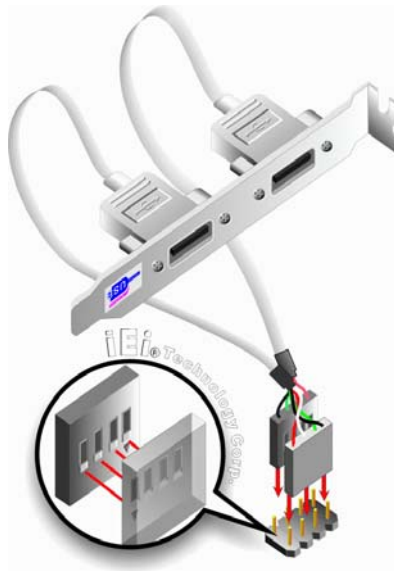

Figure 5-13: Dual USB Cable Connection
Step 3: Insert the cable connectors. Once the cable connectors are properly aligned with the USB connectors on the SPCIE-3600AM2, connect the cable connectors to the on-board connectors. See **Figure 5-13**.